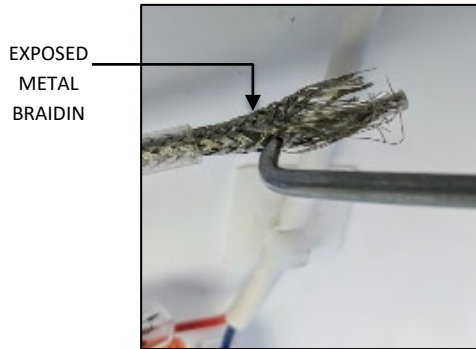
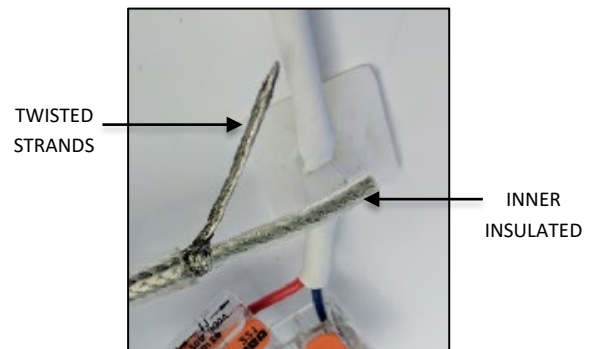

FIG. 19
FIG. 20
- Using a small pointed object, begin unweaving the exposed metal braiding as shown in FIG. 19 below. Position the unwoven metal strands on one side of the inner insulated wire and twist the individual strands together as shown in FIG. 20 below.